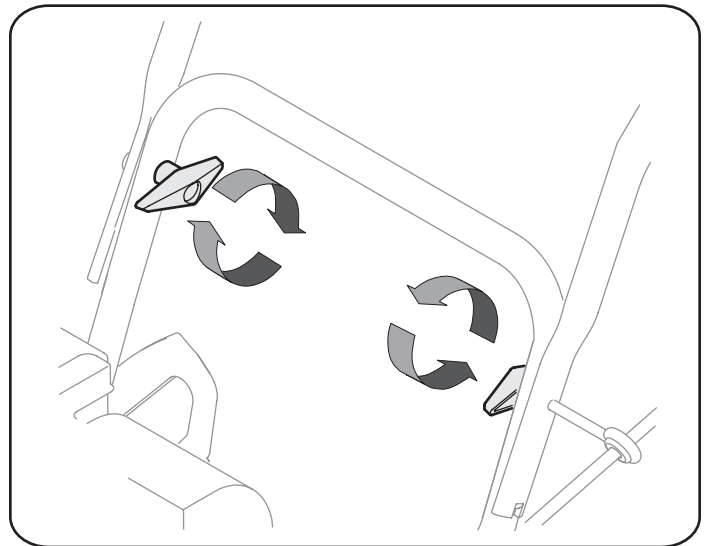

Figure 2
2. Secure the handle by tightening the plastic wing knob located on both the left and right sides of the handle. See Figure 2. Remove and discard any rubber bands, if present. They are for packaging purposes only.